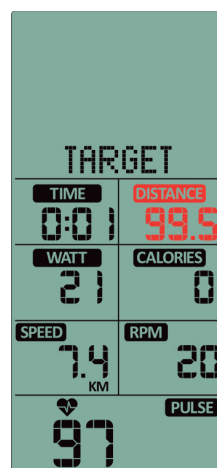

Figure 43
- It is set so that after pressing ENTER, the matrix displays 'TARGET' continuously lit and starts the countdown (Figure 43).